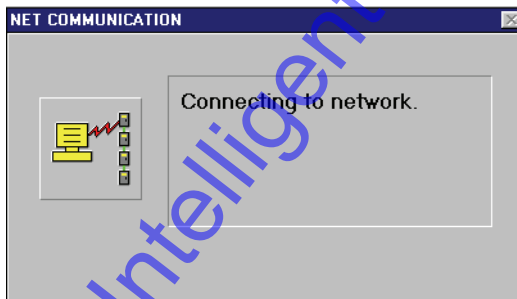

Figure 5-40: Connecting to the Network
3. The host computer connects to the access control network (if it isn't already connected). The Network Communication window appears if the access control network connection needs to be made (see Figure 5-40).